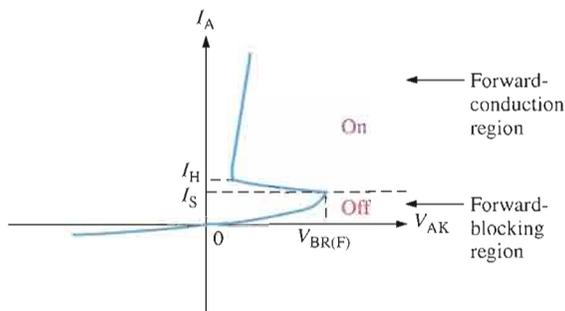

FIGURE 11-4
**Forward-Breakover Voltage** The operation of the 4-layer diode may seem unusual because when it is forward-biased, it can act essentially as an open switch. There is a region of forward bias, called the *forward-blocking region*, in which the device has a very high forward resistance (ideally an open) and is in the *off* state. The forward-blocking region exists from  $V_{AK} = 0$  V up to a value of  $V_{AK}$  called the **forward-breakover voltage**,  $V_{BR(F)}$ . This is indicated on the 4-layer diode characteristic curve in Figure 11-4.
As  $V_{AK}$  is increased from 0, the anode current,  $I_A$ , gradually increases, as shown on the graph. As  $I_A$  increases, a point is reached where  $I_A = I_S$ , the switching current. At this point,  $V_{AK} = V_{BR(F)}$ , and the internal transistor structures become saturated. When this happens, the forward voltage drop,  $V_{AK}$ , suddenly decreases to a low value, and the 4-layer diode enters the *forward-conduction region* as indicated in Figure 11-4. Now, the device is in the *on* state and acts as a closed switch. When the anode current drops back below the holding value,  $I_H$ , the device turns off.
**Holding Current** Once the 4-layer diode is conducting (in the *on* state), it will continue to conduct until the anode current is reduced below a specified level, called the **holding current**,  $I_H$ . This parameter is also indicated on the characteristic curve in Figure 11-4. When  $I_A$  falls below  $I_H$ , the device rapidly switches back to the *off* state and enters the forward-blocking region.